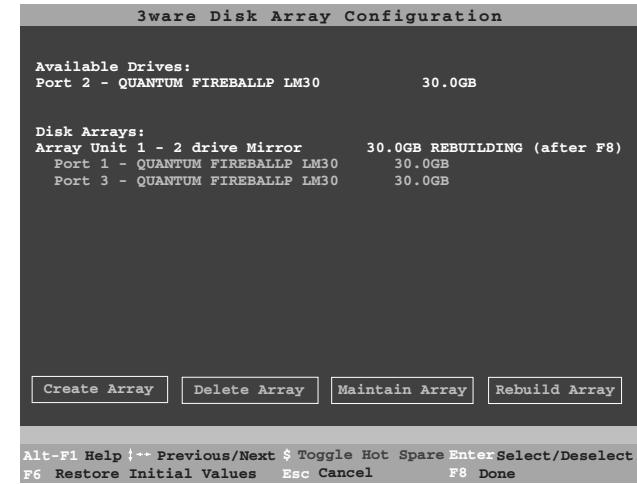

Figure 17. Rebuild Array Status Display, RAID 1 Example
- 8 Navigate to the **Rebuild Array** button and press **Enter** (see Figure 17). A status screen will be displayed with your requested array and member drives.